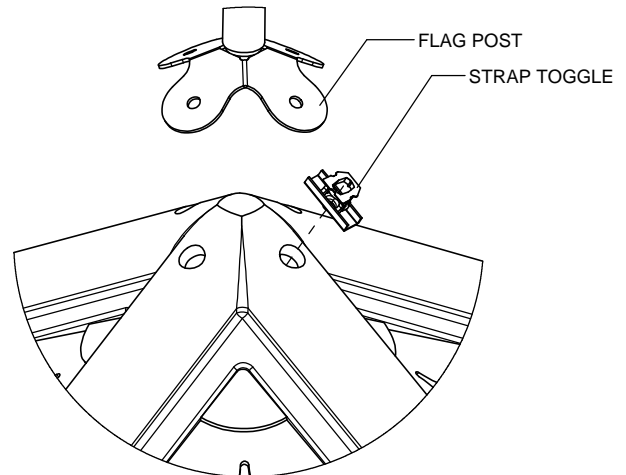

Figure 1.1
Using Flag Post, match drill (4) 3/4" holes, and attach Strap Toggles as shown in Figure 1.1.